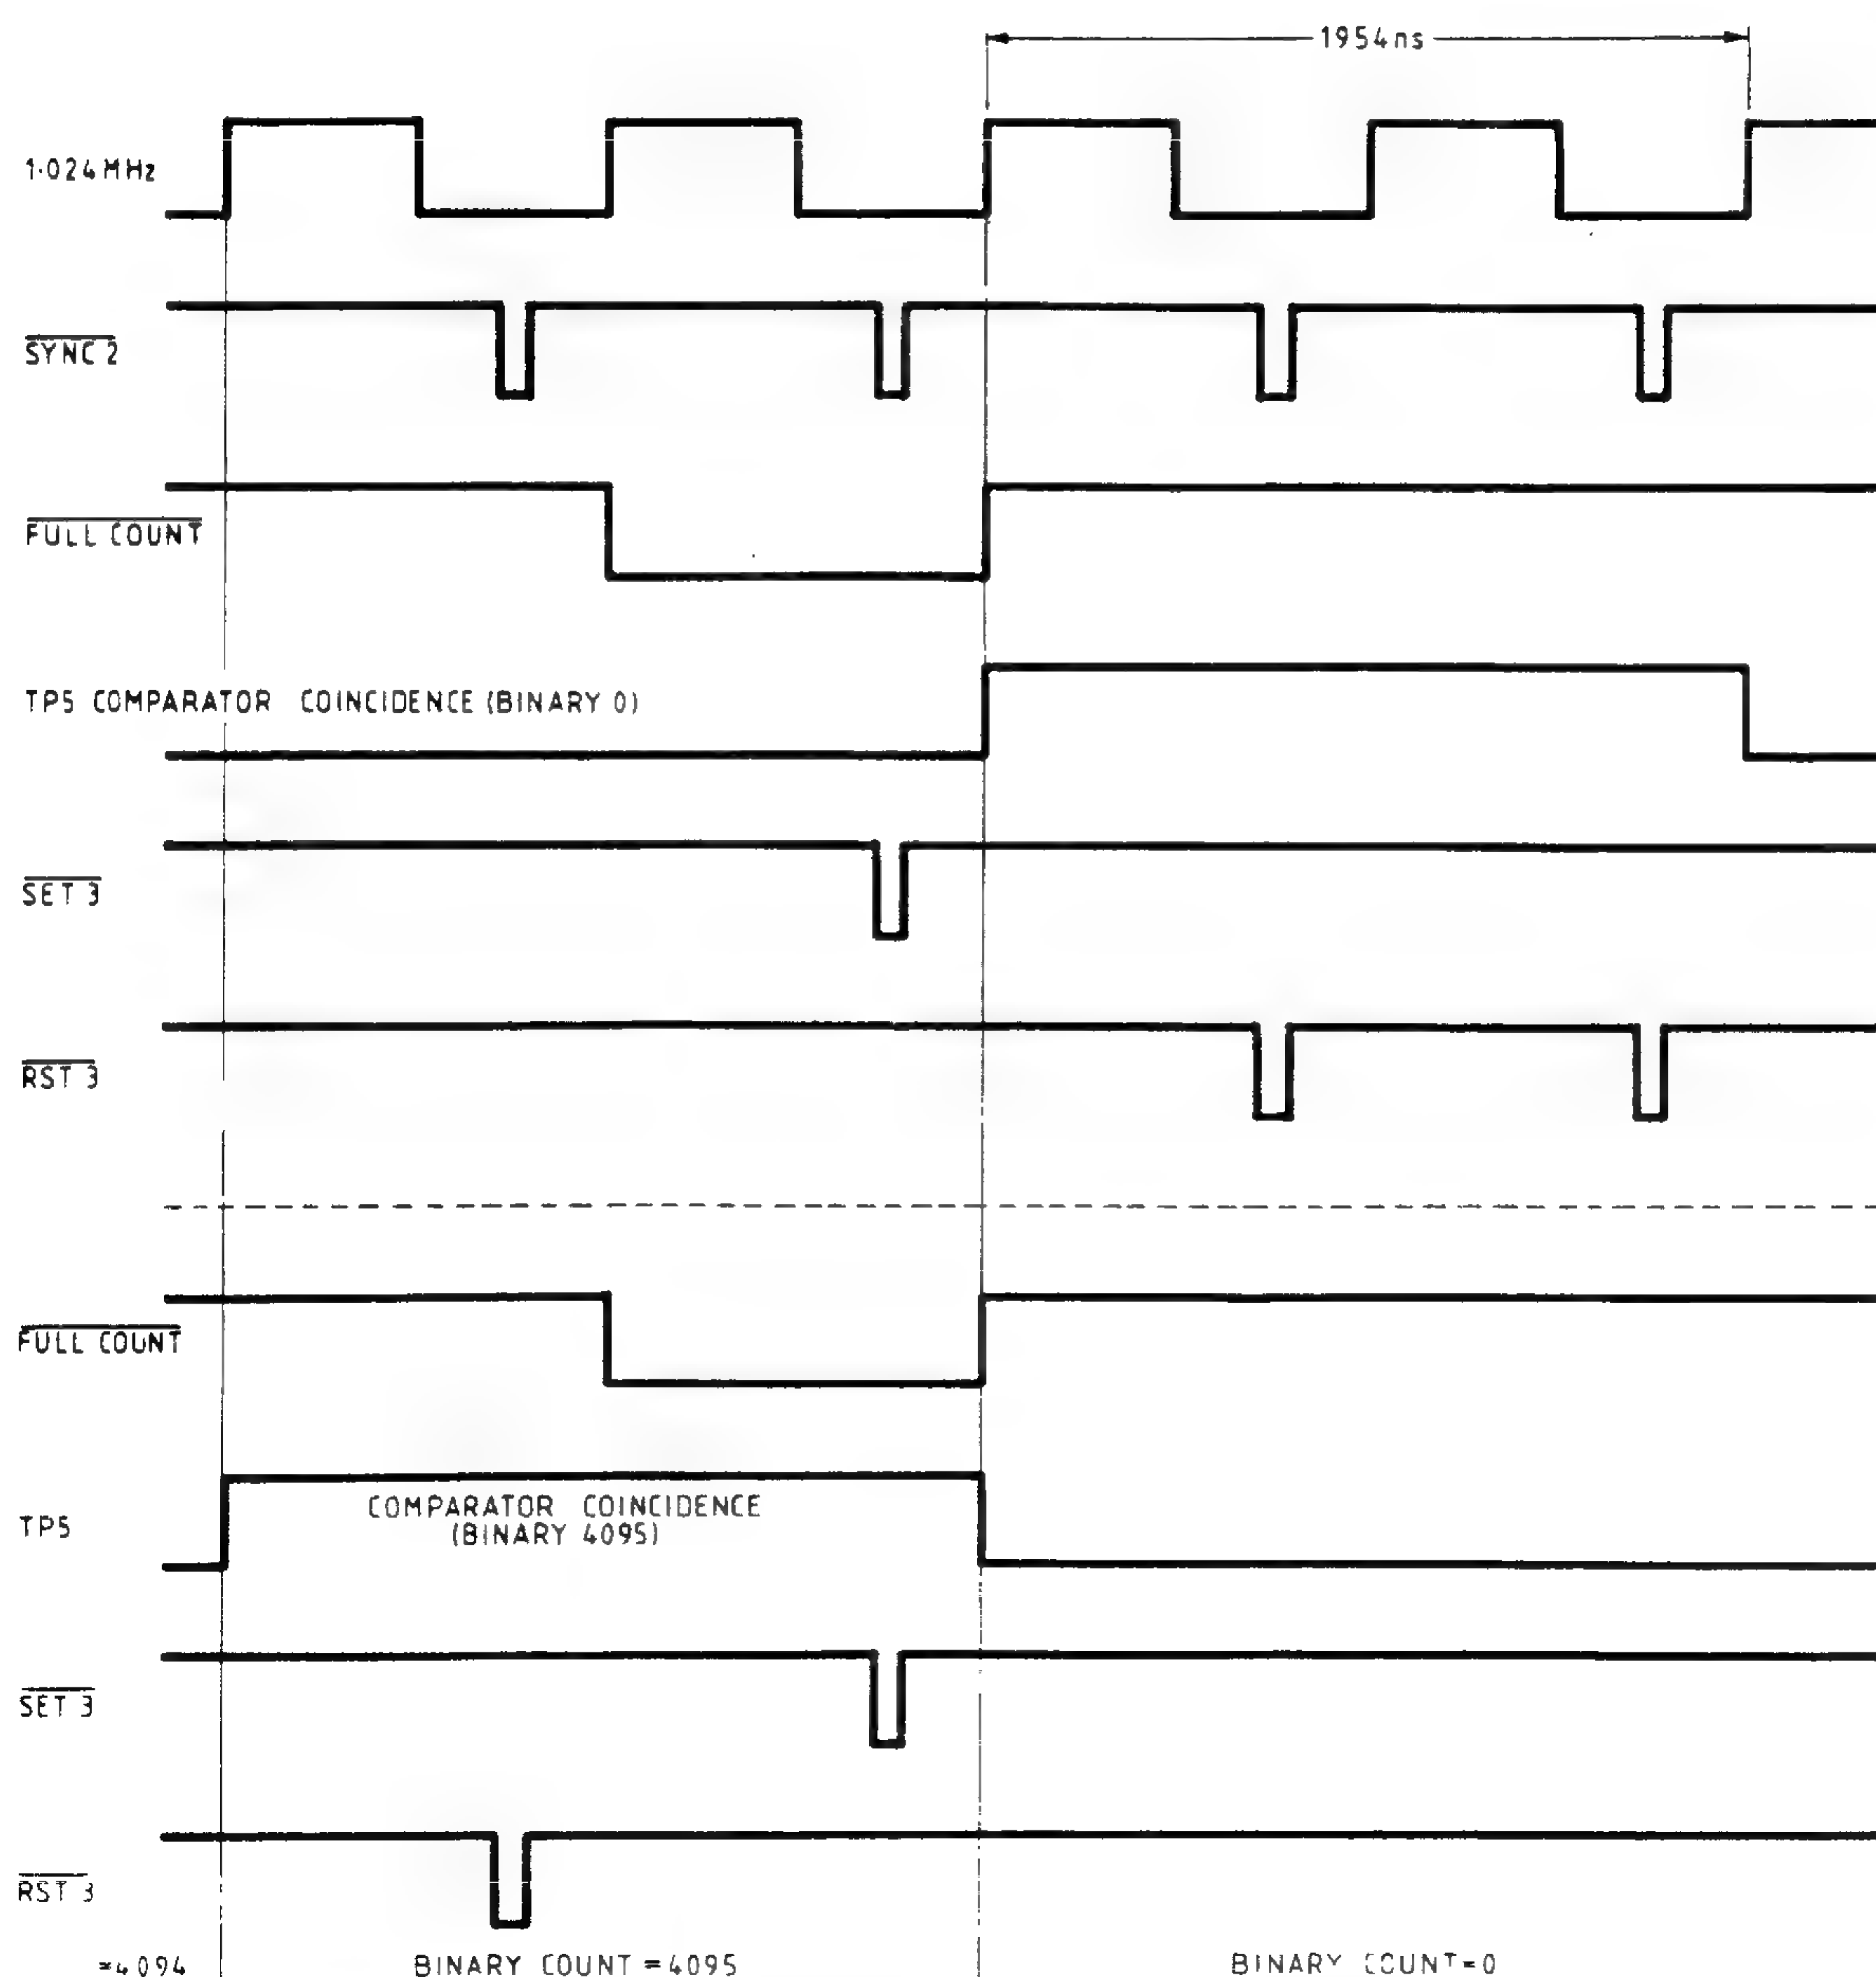

FIG. 6.24 LSB SET/RESET PULSE GENERATION
6.5.2.6 'Least Significant Bits' SYNC Logic (Refer to Fig. 6.24 for Waveforms)